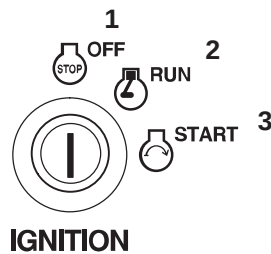

Figure 22
6. Turn ignition key to start to energize starter. When engine starts, release key (Fig. 22).
3. Let the engine idle for 60 seconds (Fig. 22).
4. Turn the ignition key to off (Fig. 22).